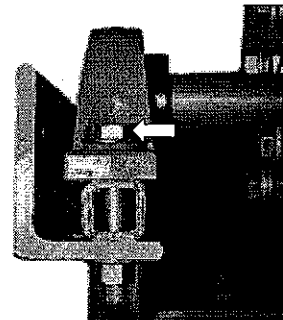

figure 28
4. Remove 2, 1/2-13 x 3 1/2 in. cap screws from the bearing mounting (single motor only) and 2 carriage bolts from the motor housing(s) (figures 28 and 29). This detaches the brush from the brush frame.